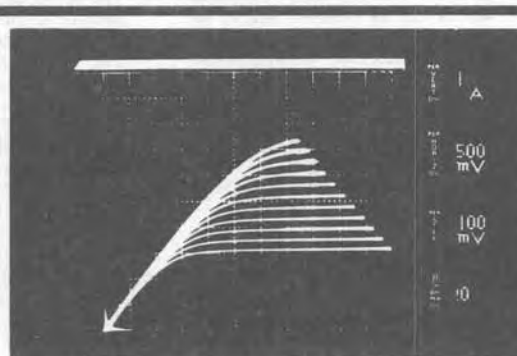

Figure 7. Forward Transconductance ( $g_{fs}$ )
13. Connect the device using the RIGHT/LEFT switch. Increase the VARIABLE COLLECTOR SUPPLY voltage to increase  $I_D$ , but do not exceed  $I_{DM}$ . The display will be similar to that shown in Figure 7. The device under test will get hot within seconds. It may therefore be necessary to photograph the trace as soon as possible after connecting the device in order to permit careful analysis of the trace. It may be necessary to vary the offset voltage in order to center the traces about the desired current level. The transconductance is obtained by dividing the value of the current step between traces in the linear region by the value of gate voltage step used. In this case, the current step value is 0.45 amps in the region of  $I_D = 5$  amps, and the gate voltage step is 0.1 volts. Thus, the transconductance is 4.5 Siemens.